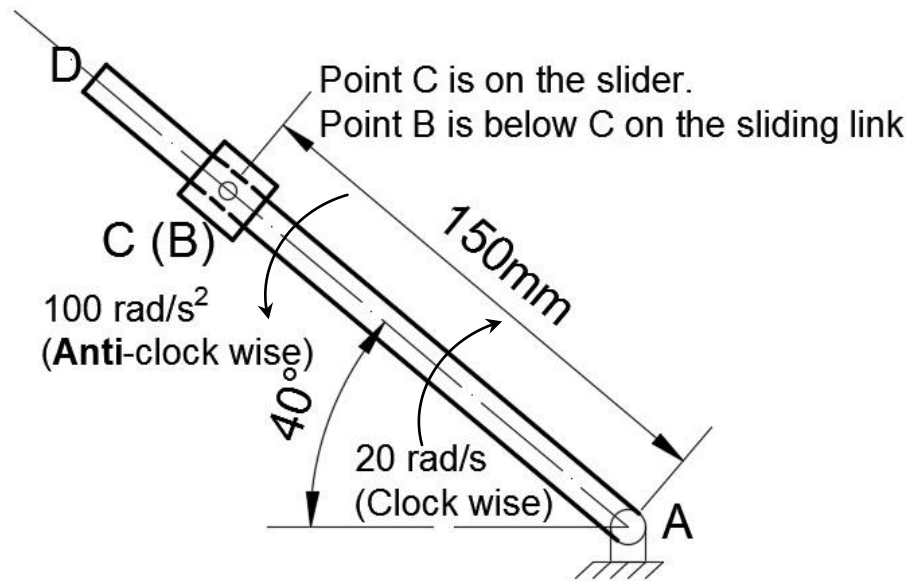

Figure 2
2. Find the absolute acceleration of the slider for the arrangement given in figure 2. At this instant, the slider moves with a sliding velocity of 0.5m/s towards A with a linear (sliding) **retardation** of 20m/s^2 . The link AD is rotating at 20rad/s in the clock-wise direction with an angular **retardation** of 100rad/s^2 .